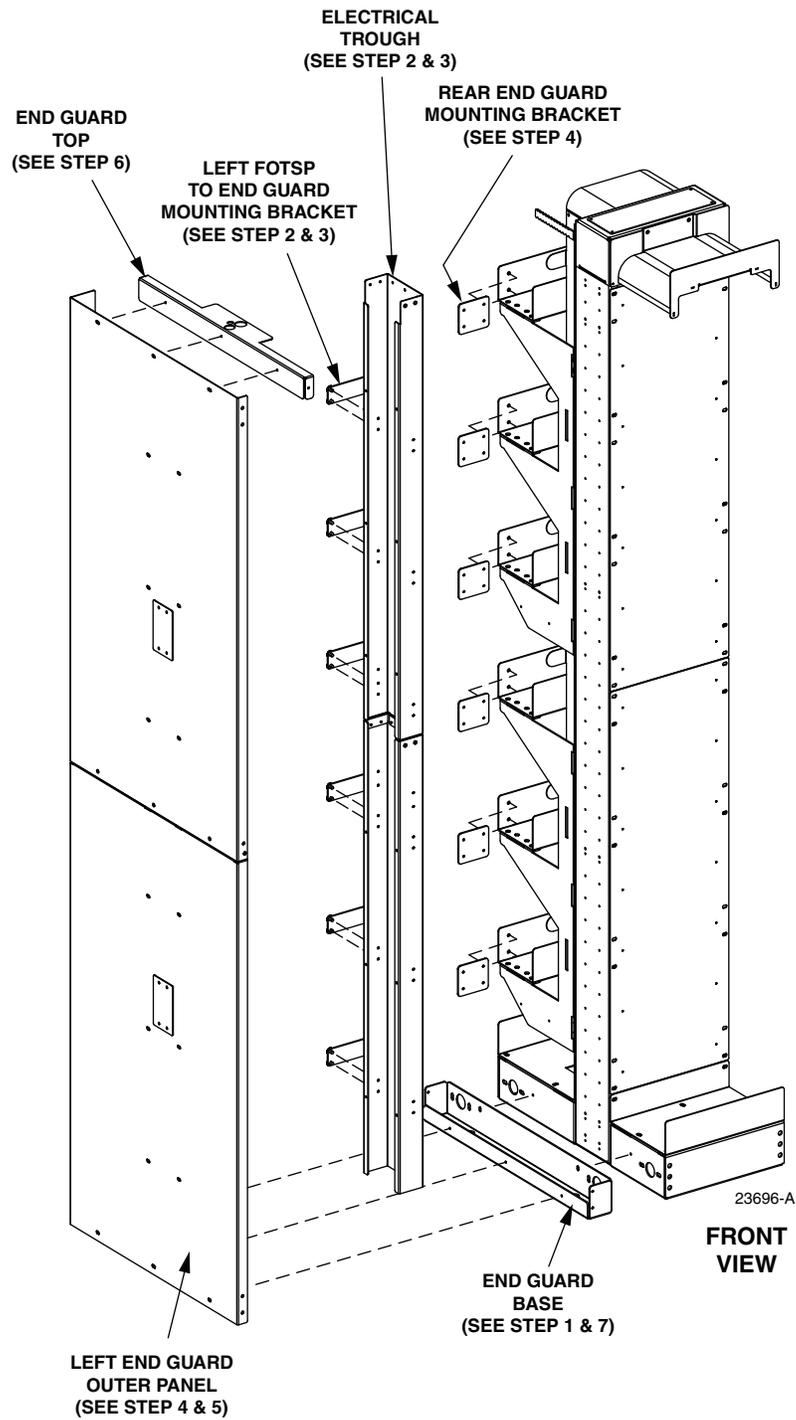
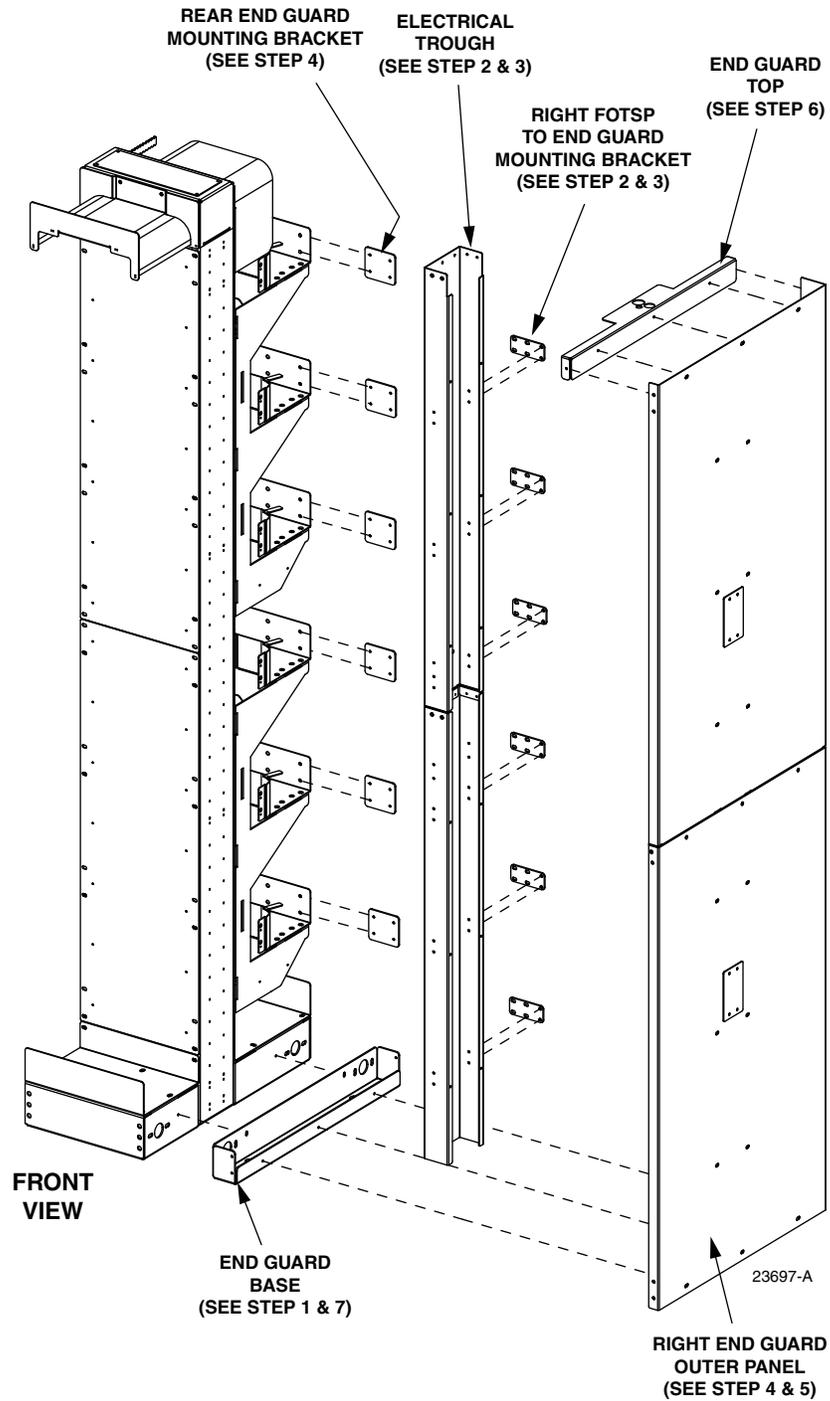

Figure 12. Left Side Installation on FOTSP Exploded View and Steps
Figure 13. Right Side Installation on FOTSP Exploded View and Steps
The NG3 end guard can be installed on either the left side or right side of an NG3 Fiber Optic Storage Panel (FOTSP). **Figure 12** indicates the six steps in installing an end guard on the left side of the FOTSP. All kit components required for left side installation are shown.
Figure 13 indicates the six steps in installing an end guard on the right side of the FOTSP. All kit components required for right side installation are shown.
► **Note:** For left versus right orientation, refer to Figure 12 on Page 14 and Figure 13 on Page 15.
8. Installation of the end guard on the FOTSP is now complete. Figure shows the end guard completely installed on the FOTSP. For an exploded view of an end guard on the right side of the FOTSP, refer to Figure 13 on Page 15.